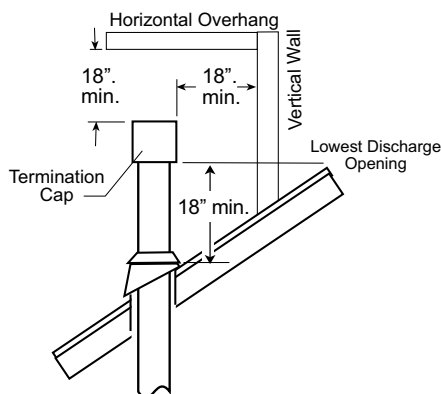

Figure 6.5.
- **Vent Terminus Clearance:** In no case shall any discharge opening on the cap be less than 18 in. (457 mm) horizontally from the roof surface. See fig. 6.5.